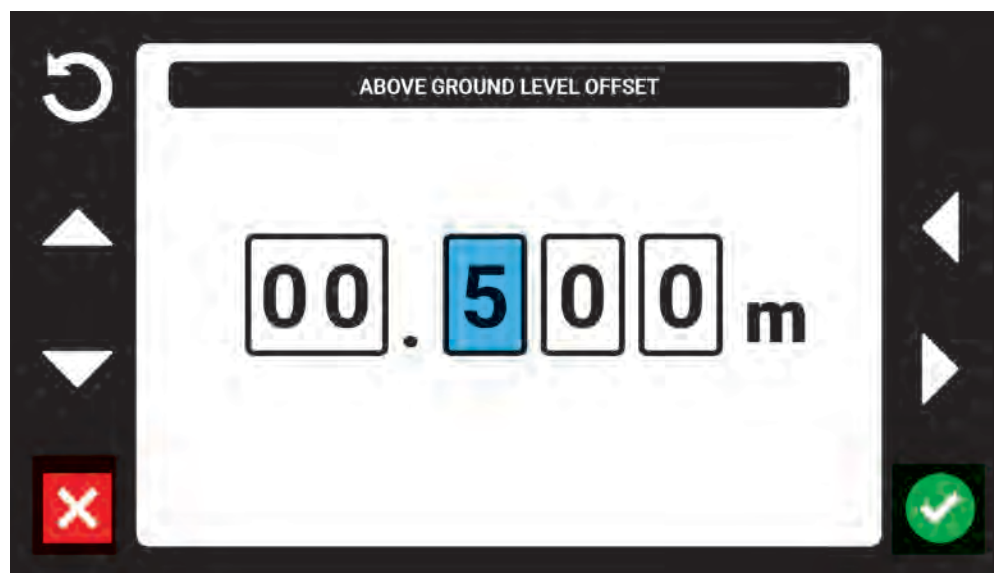

Figure 5-12 Above Ground Level Offset Screen
1. Go to the Settings Screen (Section 5.7.1). Scroll through the setting options and select "Above Ground Level Offset". A screen will pop up stating that the Preset Heights will be cleared and will need to be reprogrammed. After reading and understanding the notice, press the green check mark to continue. Below is the Above Ground Level Offset Screen (Figure 5-12).